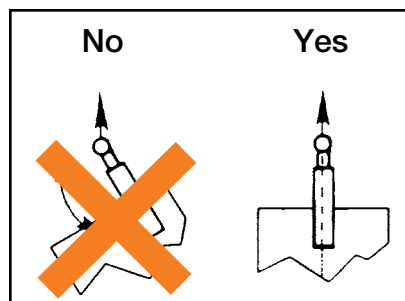

Figure 52
**⚠ WARNING!: Position clamp to balance load. A trial tensioning of load will usually indicate proper balance (Fig. 52).**